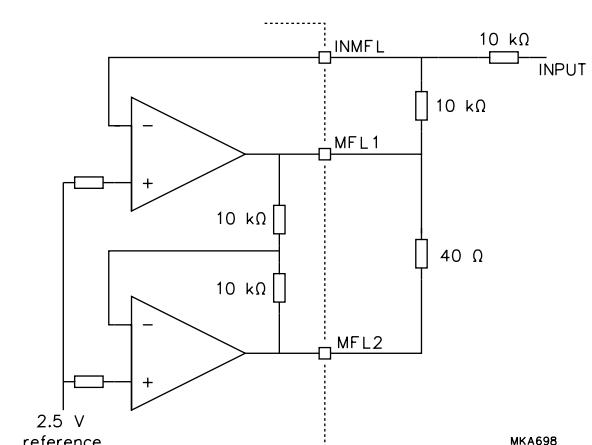

Fig.10 Principle of the feedback amplifier and test circuit.
- Closed loop; unity gain; $f_i = 1 \text{ kHz}$; THD < -45 dB; $R_L = 40 \Omega$; in accordance with Fig.10.
- Closed loop; unity gain; $f_i = 1 \text{ kHz}$; 10 mA (RMS) output current into 40Ω ; in accordance with Fig.10.
- Closed loop; unity gain; -3 dB bandwidth; measured in test circuit of Fig.10.
The feedback amplifiers consist of two operational amplifiers providing one input and a differential output with respect to the internal 2.5 V reference (see Fig.10).